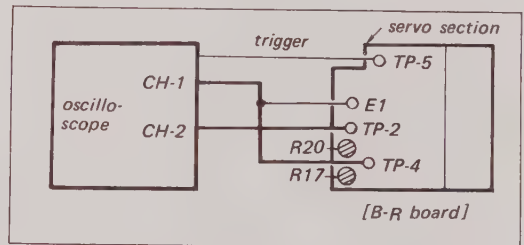

Fig. 7-6. Tracking control range adjustment test setup
1. Connect the CH-1 probe of the scope to TP-4 of the B-R (Servo) board. See Fig. 7-6. Set CH-1 gain to 5 V/cm, time base to 5 msec/cm. Set sync selector to sync on CH-1 only.
2. Connect the CH-2 probe to TP-2 of the B-R (Servo) board. See Fig. 7-6. Set CH-2 gain to 5 V/cm.